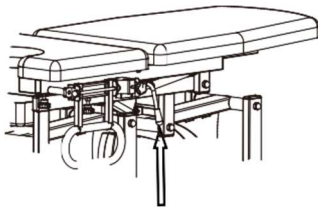

Figure 12
- As shown in the Figure 12, pull the control lever backward (in the direction shown by the arrow) to adjust the angle of the head section.